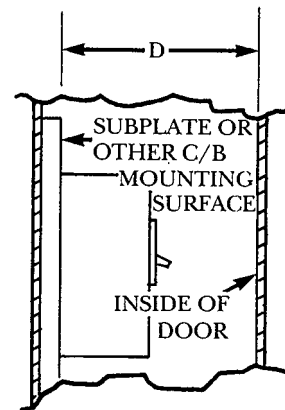

Figure 3.
- a. Measure inside depth, D—see figure 3.
NOTE: SHAFT IS FURNISHED TO MAX. DEPTH, CUSTOMER TO CUT WHEN DIM. IS LESS (SEE FIG. 3)